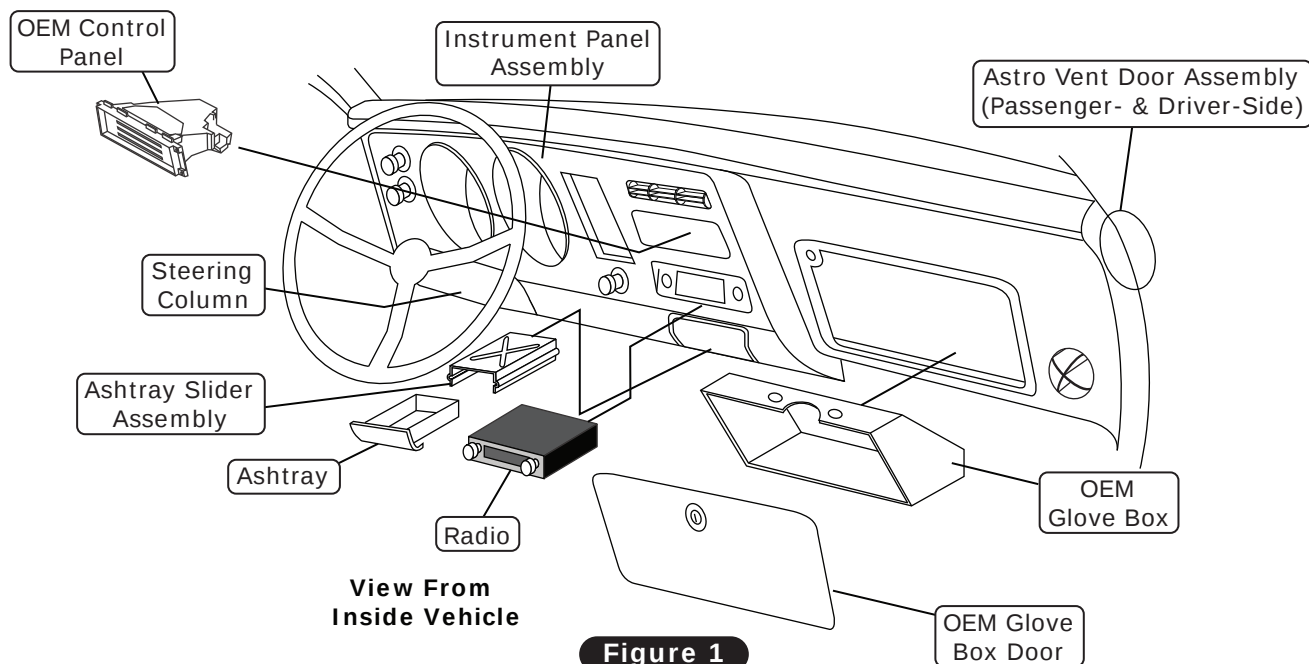

Figure 1
9. Remove the instrument panel assembly (retain) (See Figure 1, below).